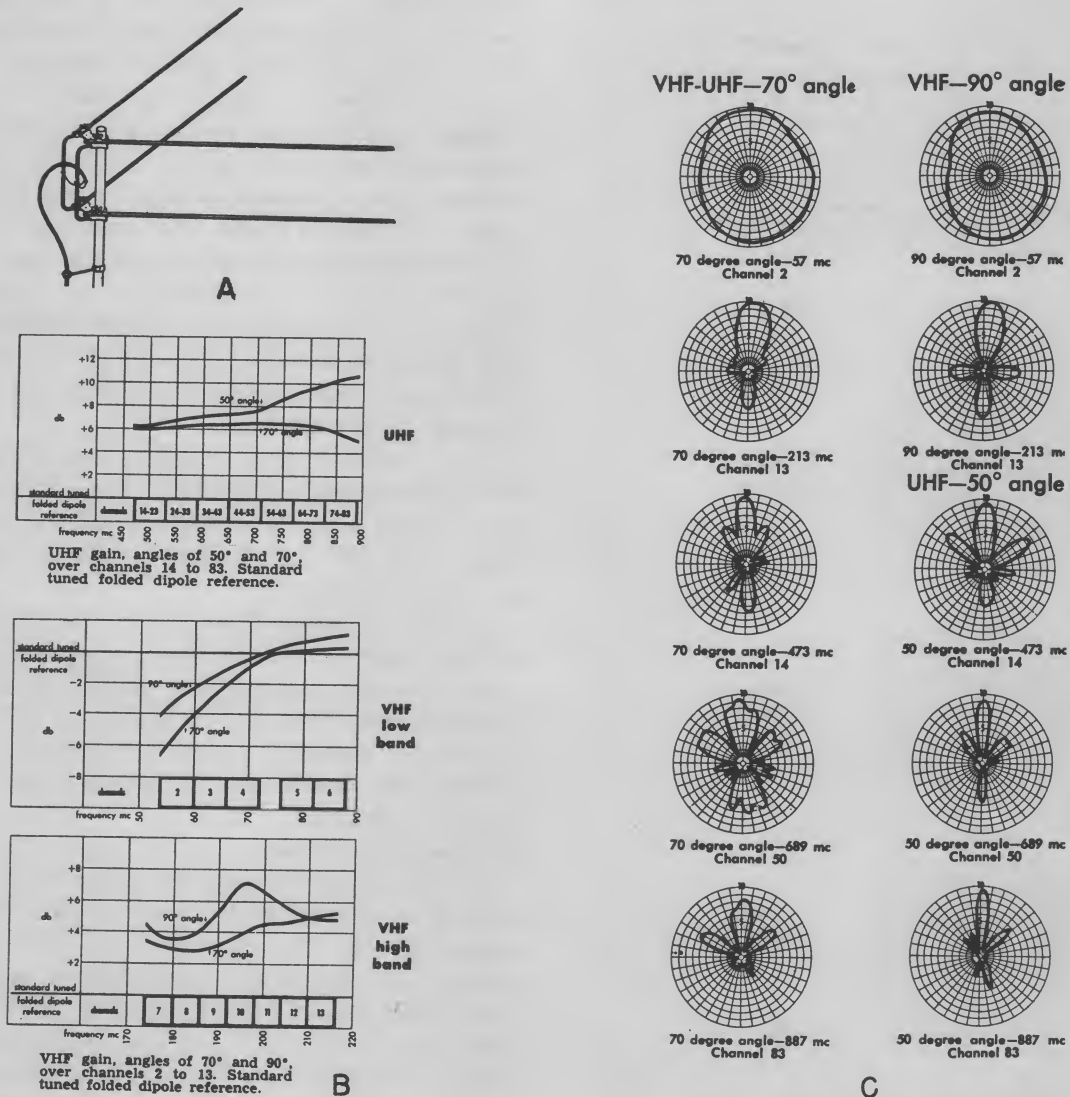

Fig. 11-5. Stacked-V antenna: (A) stacked "V"; (B) gain chart; (C) horizontal directivity pattern. Courtesy Amphenol.
e. *Stacked "V"* (Fig. 11-5). This is a versatile antenna which can be used as a uhf antenna or as a combination uhf-vhf antenna. Its use for vhf reception alone is limited, due to its low gain in the region of Channels 2 to 6. The open end of the "V" is faced toward the transmitter and the angle between the arms of the "V" is adjusted for the desired band. The beamwidth, directivity, number of major lobes, and front-to-back ratio vary with the selected angle. The V-beam and trombone antennas are modified versions of this antenna.